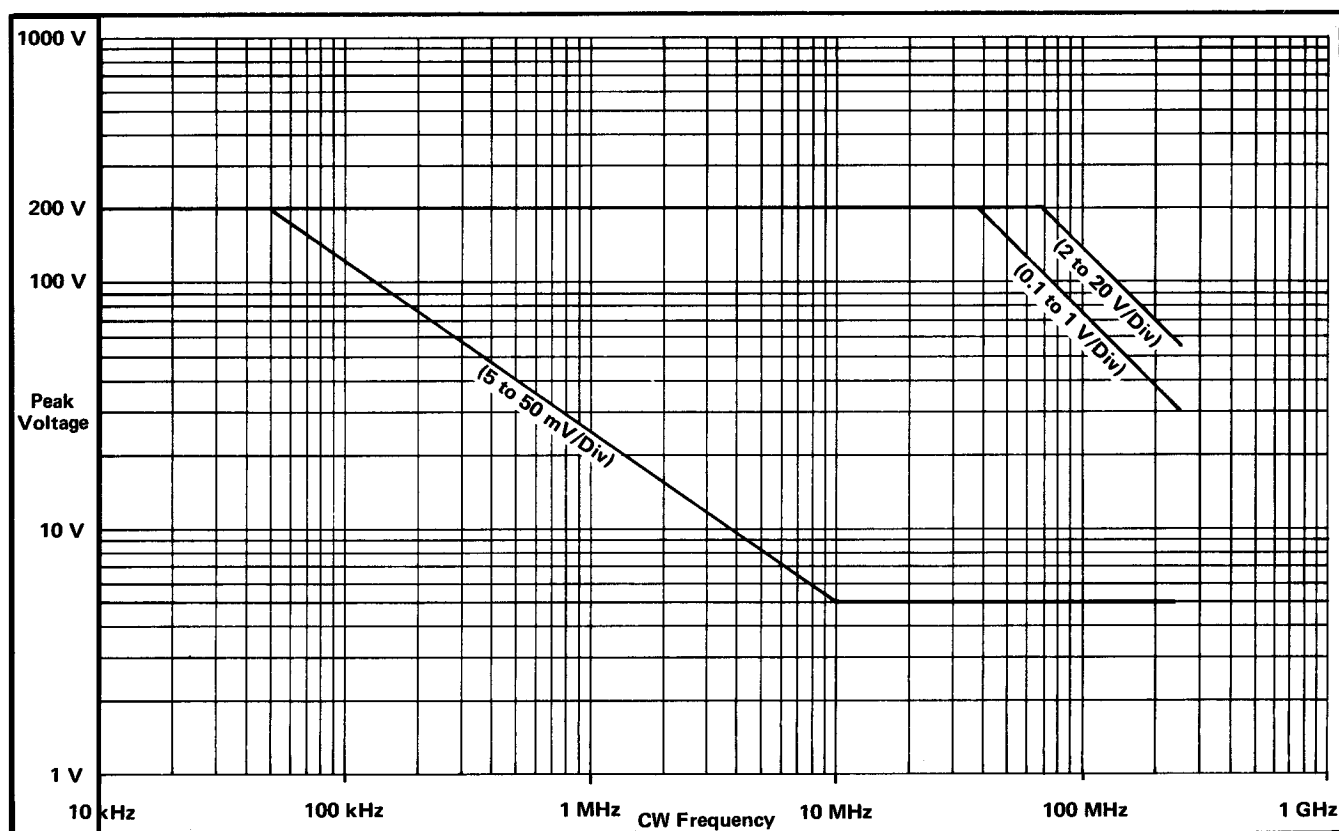

Fig. 1-2. Frequency versus maximum input amplitude derating graph.
5 mV thru 50 mV	200 V peak to 50 kHz; see Fig. 1-2 for amplitude derating due to frequencies above 50 kHz
0.1 V thru 1 V	200 V peak to 40 MHz; see Fig. 1-2 for amplitude derating due to frequencies above 40 MHz
2 V thru 20 V	200 V peak to 70 MHz; see Fig. 1-2 for amplitude derating due to frequencies above 70 MHz